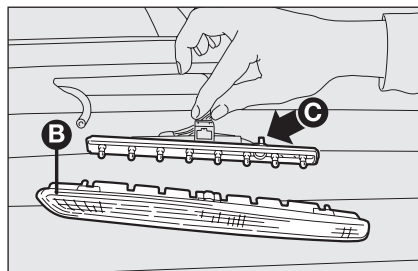

fig. 33
- ☐ remove the lens unit **B**-fig. 33 and disconnect the electric connector;
- ☐ press the tabs **C**-fig. 33 and remove the bulb holder;